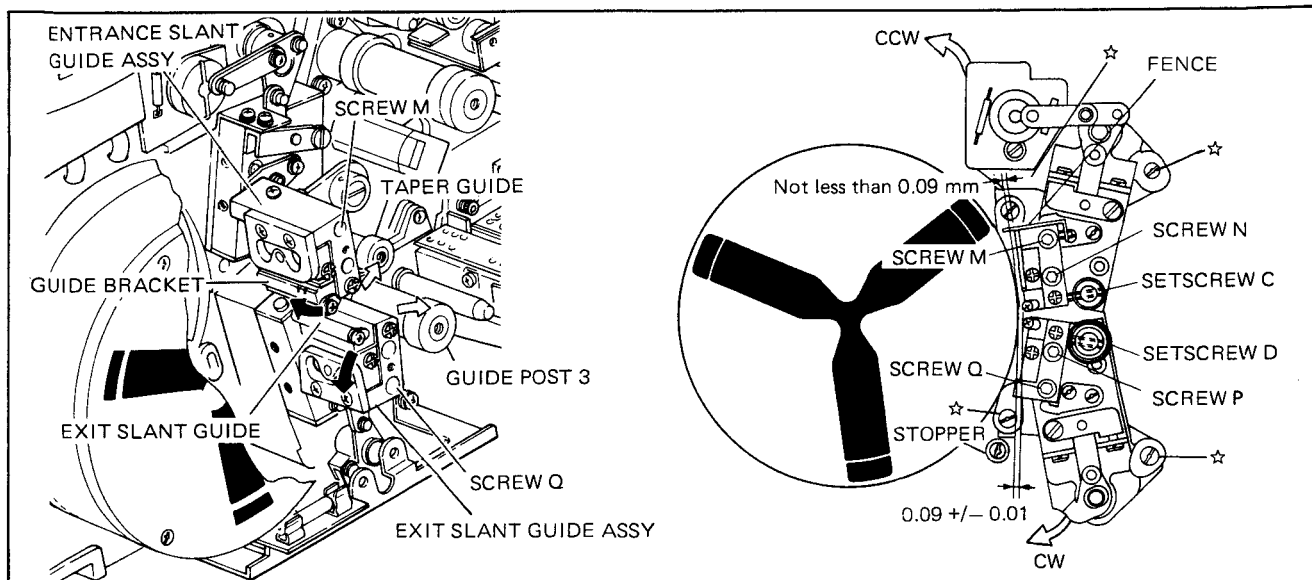

Fig. 3-85. Overlap Adjustment
1. When the overlap B is less than the specified value (See Fig. 3-85).
2. When the overlap C is less than the specified value (See Fig. 3-85).